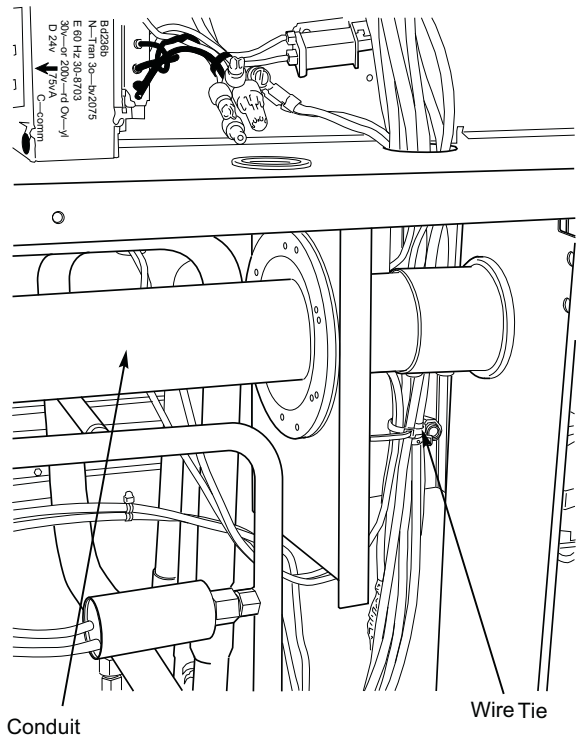

Fig. 9 — Typical Conduit Installation
9. Secure the rainshield (conduit drip boot bracket) assembly to the back of the single point box with 2 of the screws provided. (See Fig. 5.) The channel portion of the bracket assembly extends to the top panel behind the control box. Secure all wires to bracket with field-supplied wire tie as shown. (See Fig. 9.)
Remove knockouts for appropriate size conduit from unit blockoff panel and single point box. Install conduit (rigid or electrometallic tubing) through conduit drip boot as shown. (See Fig. 9.) Drip boot will accept conduit sizes 3/4 in. to 1-1/2 in. The drip boot eliminates the need for watertight conduit fittings at the single point box. (See Fig. 14.)